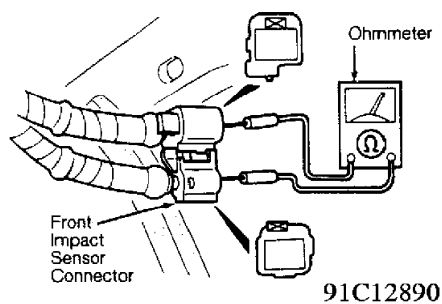

Fig. 12: Checking Impact Sensor Resistance
1) Disable air bag system. See DISABLING & ACTIVATING AIR BAG SYSTEM. Disconnect front impact sensor connectors (center, left, and right), and measure resistance of each sensor. See Fig. 12. Resistance should be approximately 1.2 k/ohms. If resistance is not as specified, replace sensor.
1) Disable air bag system. See DISABLING & ACTIVATING AIR BAG SYSTEM. Disconnect front impact sensor connectors (center, left, and right), and measure resistance of each sensor. See Fig. 12. Resistance should be approximately 1.2 k/ohms. If resistance is not as specified, replace sensor and go to step 5).